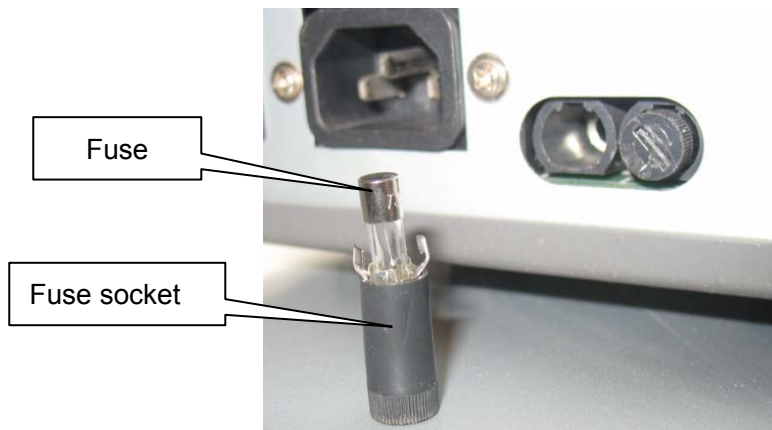

Figure 3-5
- 2、 After taking out the fuse socket, as shown in figure 3-5, take the fuse out form the socket and replace a new one. Install the fuse socket into the fuse box again. Use a screwdriver to push the fuse socket in and turn it clockwise.